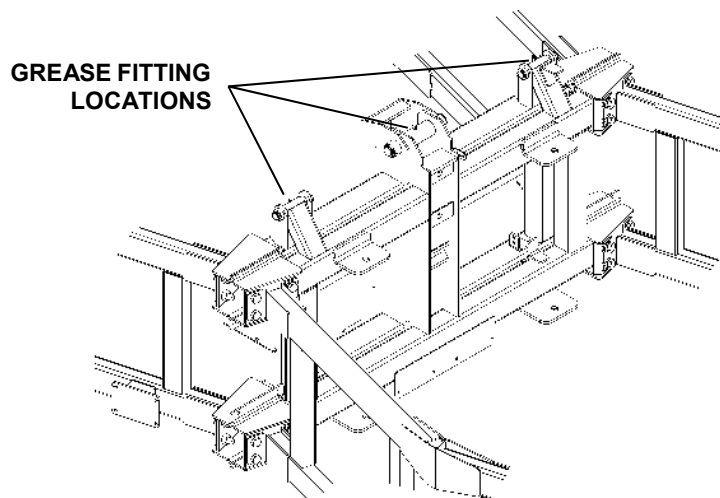

Figure 24
Figure 24 shows three (3) pivot locations equipped with grease fittings that require periodic lubrication. To prevent excessive noise and/or wear grease the locations shown below as required.